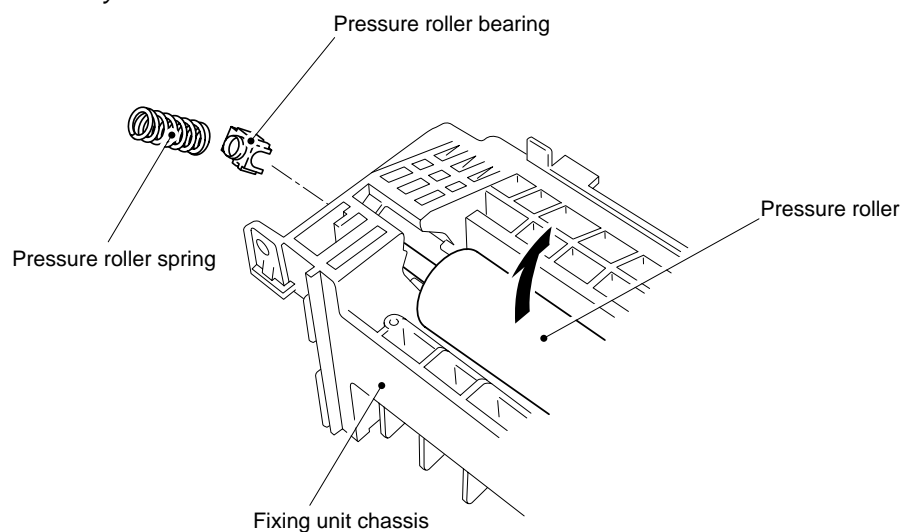
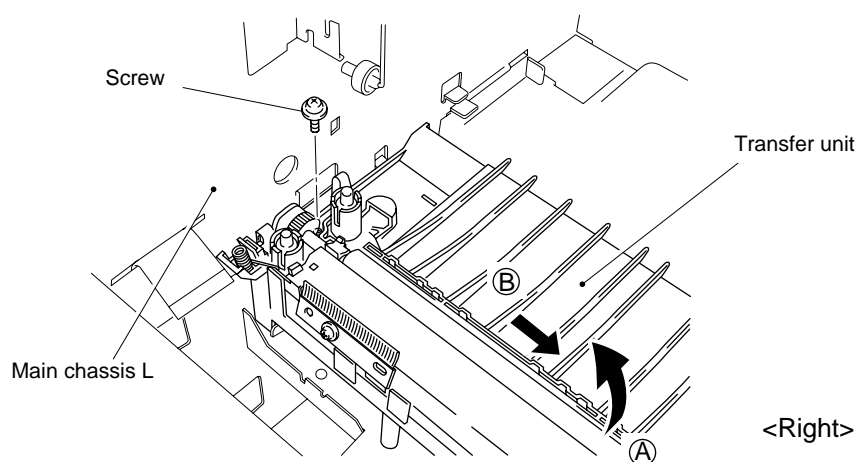

Figure 4.56
Figure 4.57
- (1) Loosen a screw.
- (2) Release the 3 right hooks, (see Figure 4.57) lift the right part of the unit (A) and slide it to the right (B) (See Figure 4.56) to take off the left part from the main chassis L. Remove the transfer unit from the body by lifting the former.